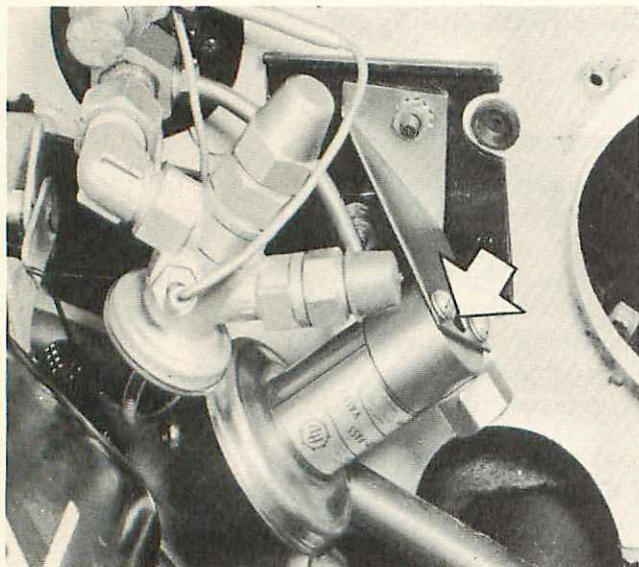

Figure 3
4. Run engine at 2000 RPM for five minutes with thermometer in cold air outlet. After five minutes, the temperature at the cold air outlet should be between 32° and 40°. If the temperature is above 40°, turn the modulating valve adjusting screw, indicated by arrow in figure 3, out $\frac{1}{4}$ turn at a time to lower the temperature at the outlet. If the temperature at the outlet is below 32°, the modulating valve adjusting screw should be turned in to raise the temperature at the outlet,—otherwise, frosting at the evaporator coils may occur to restrict the cold air flow.